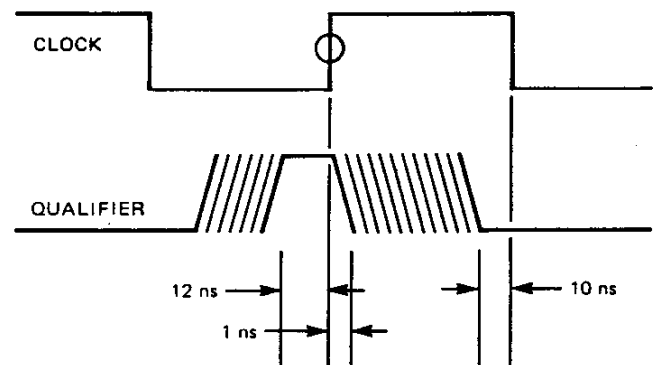

Figure 1.2 K100-D Clock Qualifier.
**QUALIFIER.** Must go TRUE a minimum of 12 ns before the clock goes TRUE, and go FALSE a minimum of 1 ns after clock goes TRUE; must go FALSE a minimum of 10 ns before clock goes FALSE. See Figure 1.2.